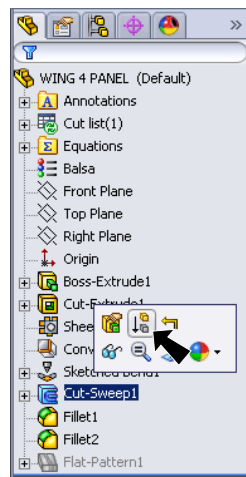

Fig. 47
Step 2. The Sheet Metal will flatten with the Cut-Sweep and Fillets suppressed. Click the **Cut-Sweep1** feature in the Feature Manager and click **Suppress**  from menu, **Fig. 47**.